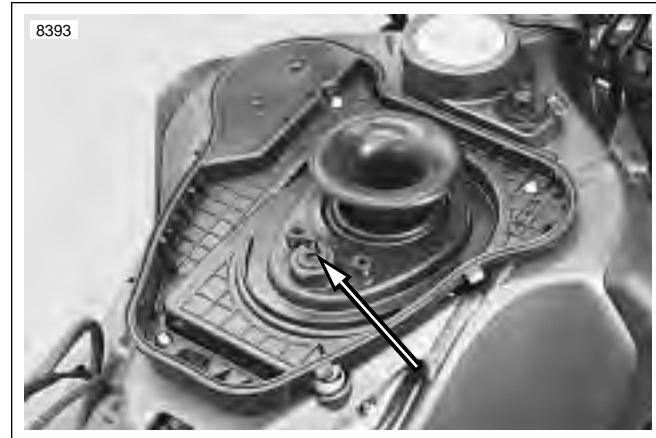

Figure 4-86. Intake Air Temperature Sensor Installed
See Figure 4-86. The intake air temperature sensor (IAT Sensor), located on the air cleaner baseplate, measures the air temperature allowing the ECM to calculate the density of the air entering the manifold. The IAT is a thermistor type sensor.
2. See Figure 4-86. Remove air cleaner cover and filter. Remove fasteners securing base. See 4.44 AIR CLEANER ASSEMBLY.